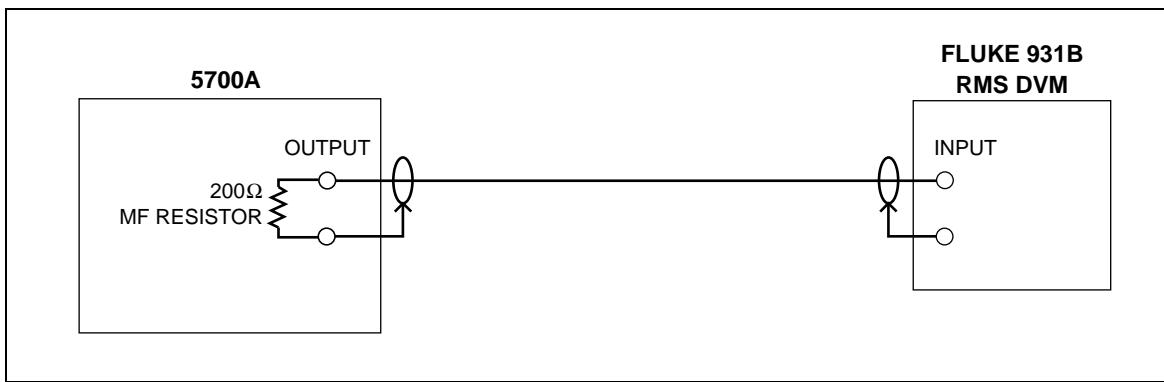

Figure 3A-22. 2 mA AC Current Setup
7. Connect the equipment as shown in Figure 3A-22. Using the same 200Ω resistor used in step 1.